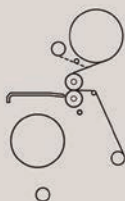

Figure 3
2. Load the film shafts on the machine (figure 3) and tighten the stop ring to lock the film shaft to the appropriate location.